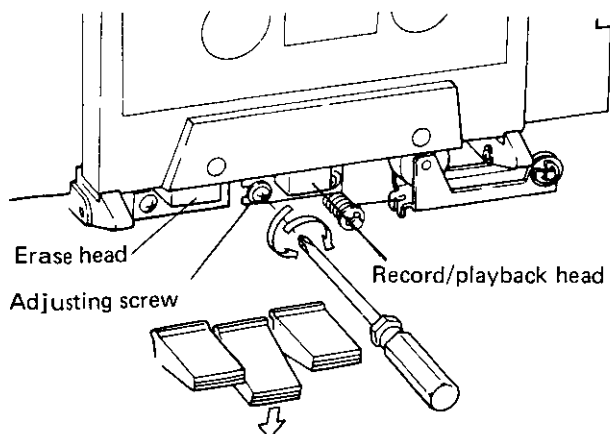

Fig. 24
4. Play the 10kHz section of the STD-341A test tape, and adjust the head azimuth adjustment screw (see Fig. 24) to obtain maximum output levels (millivoltmeter readings) in both left and right channels.